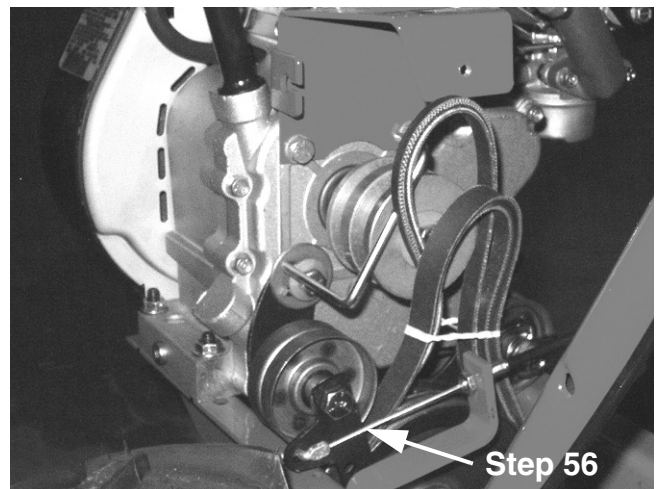

**FIGURE 13**
**NOTE:** Ensure that the reverse idler bracket extension spring's end hook is secure in the reverse idler bracket hole before mounting the engine to the frame. See Figure 13.